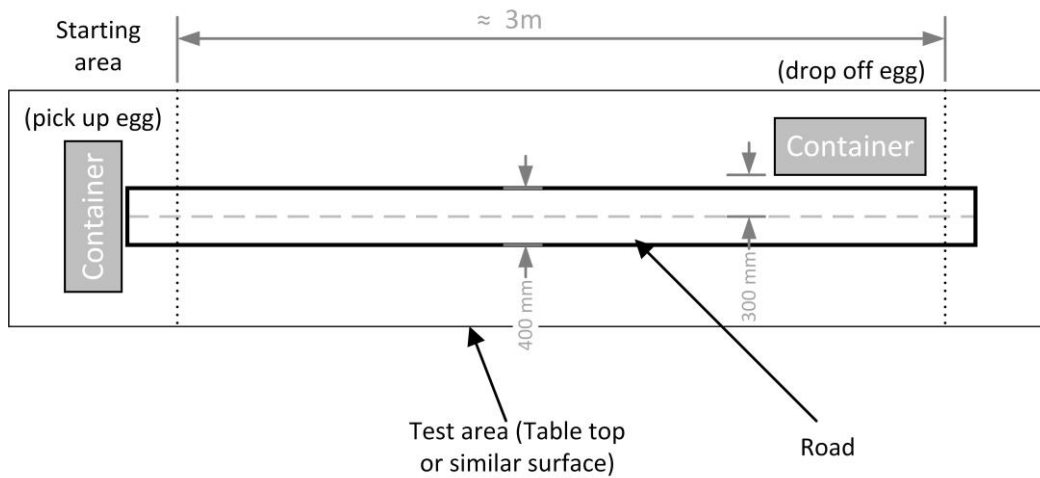

Figure 1. Testing area (top view), not to scale.
Using the testing setup in **Figure 1**, the autonomous container delivery (ACD) prototype must be able to:
- Your vehicle must stay within the bounds of the road according to Figure 1. Note that you are allowed to add anything you need to the road system to help achieve this requirement as long as the \$100 material cost limit is not exceeded.